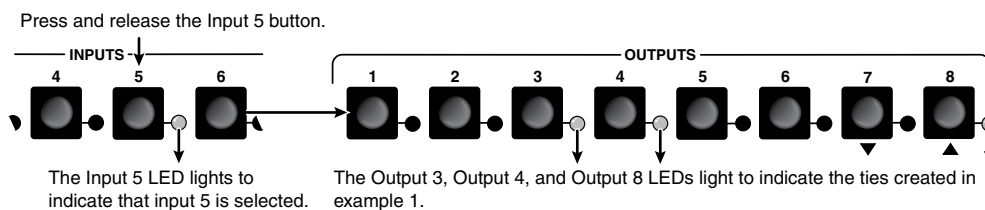

Figure 3-14 — Select an input
2. Press and release the Input 5 button (figure 3-14).